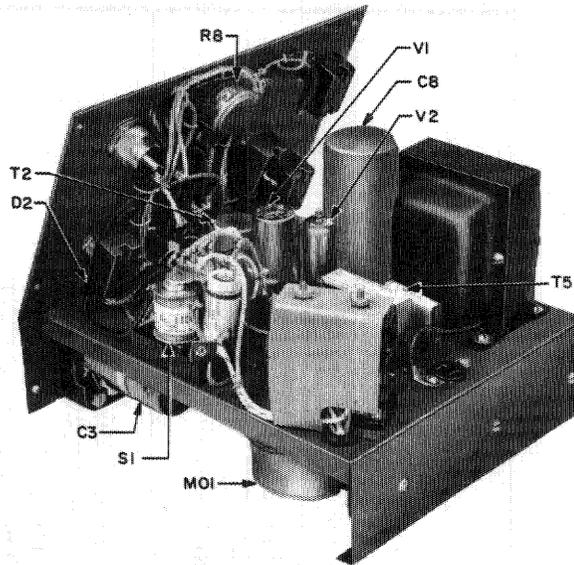

Fig. 7 — List 4 Top Assembly
7.01 Fig. 7, 8, and 9 are provided as an aid in clearing troubles in the list 4 unit.